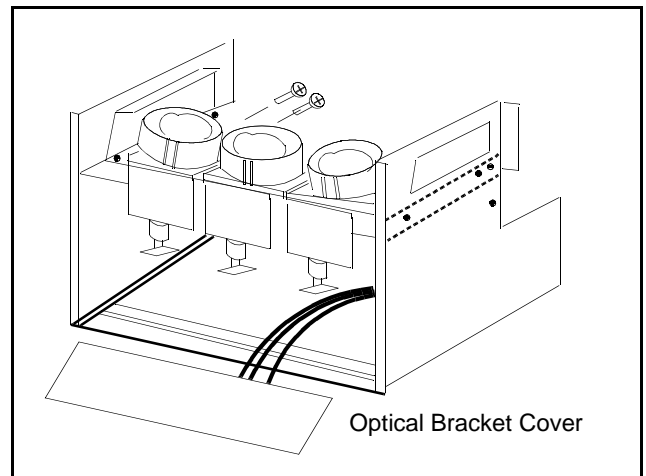

Figure 15. CRT Replacement.
7. Remove (2) screws from the defective CRT housing (Figure 15).**